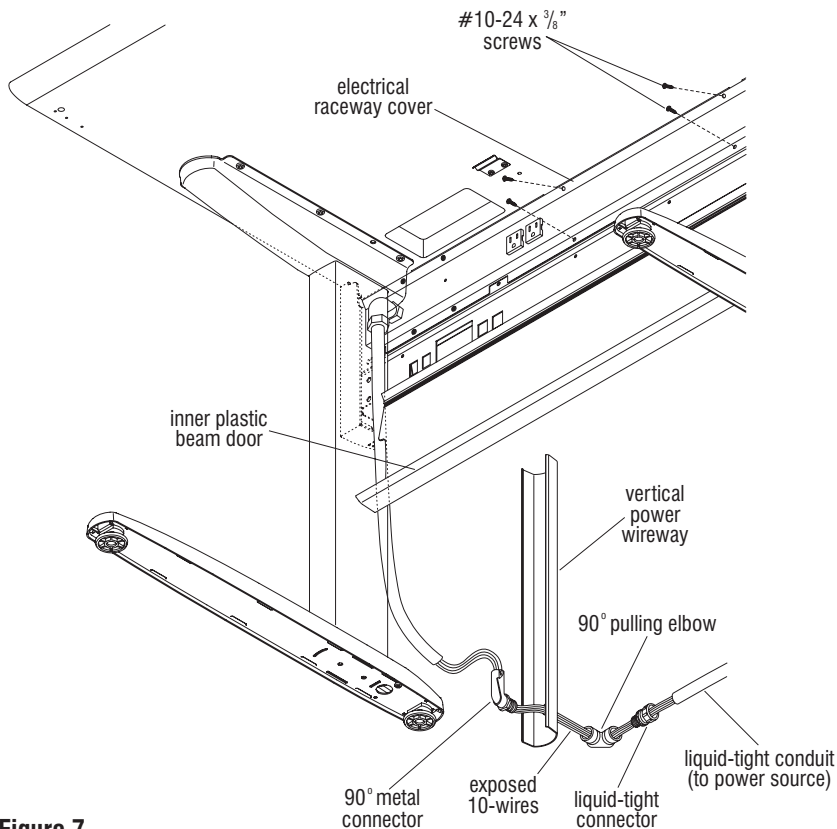

Figure 7
2. Install electrical raceway cover to inside of beam as illustrated with #10-24 x 3/8" screws (Figure 7).
4. Feed the flexible conduit and source wires down the D-shaped hole in the data trough. Route the wires through the 90° metal connector, vertical power wireway, 90° pulling elbow and liquid-tight connector. Fasten components together. Cut liquid-tight conduit to desired length. Feed wires through the liquid-tight conduit and attach the conduit to the connector on the front of the wireway (Figure 7).
5. Re-install the vertical power wireway to the leg by sliding it up into the D-shaped opening in the data trough, then down into the D-shaped opening in the foot. Press the top of the vertical wireway against the foot until it snaps into position (Figure 7).